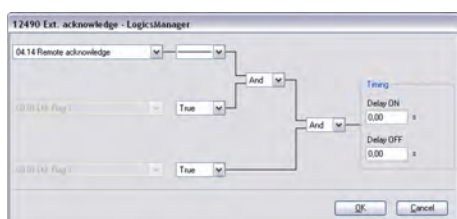

Fig. 162: LogicsManager function "Ext. acknowledge"
3. ➤ Configure the LogicsManager function "Ext. acknowledge" as shown in (Fig. 162).